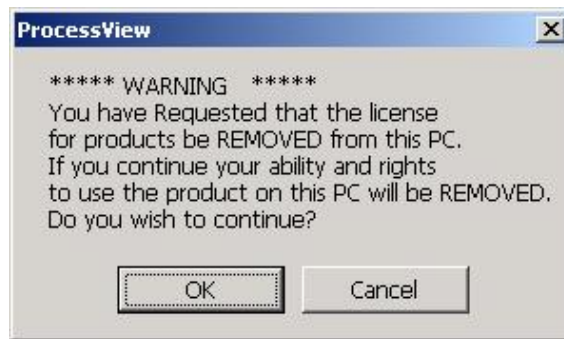

Figure 3.23. Killing a Software Key License
22. Select **Kill License** from the **Actions** menu in the License Utility. Using this option, you can remove the current software license from the current machine. You also need to contact the Smar Order Processing Department to get a special password for killing your license. A warning message will be displayed on the screen as shown in **Figure 3.23**. **If you kill your license, you need to get a new license from Smar to restart your ProcessView product.**